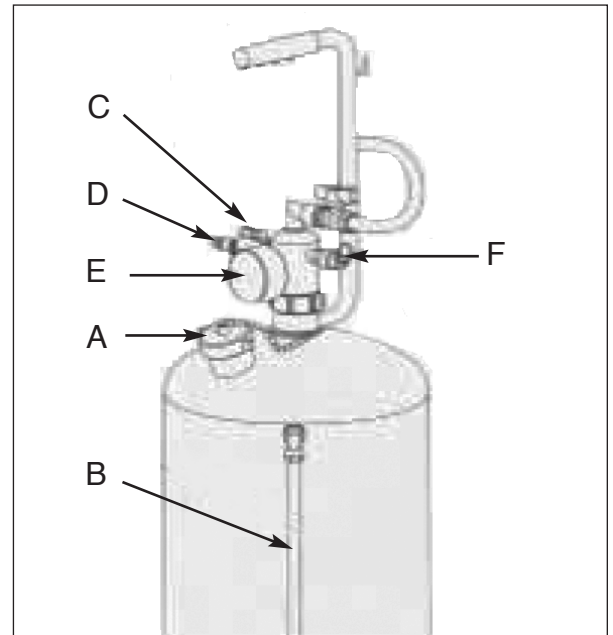

Fig. 5
6. **IMPORTANT!** Before opening the cap A always discharge the tank of compressed air by opening valve C. (See Fig. 5)